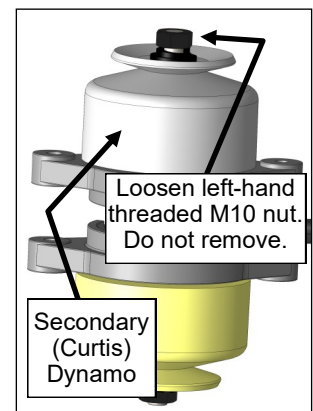

Fig. 2.4
- 2.4 See fig. 2.4. Flip the dynamo assembly over so that the Curtis dynamo is now on top. Loosen, the hex nut on the Curtis dynamo so it's flush with the end of the shaft (do not remove hex nut). CAUTION: This is a left-hand threaded nut.